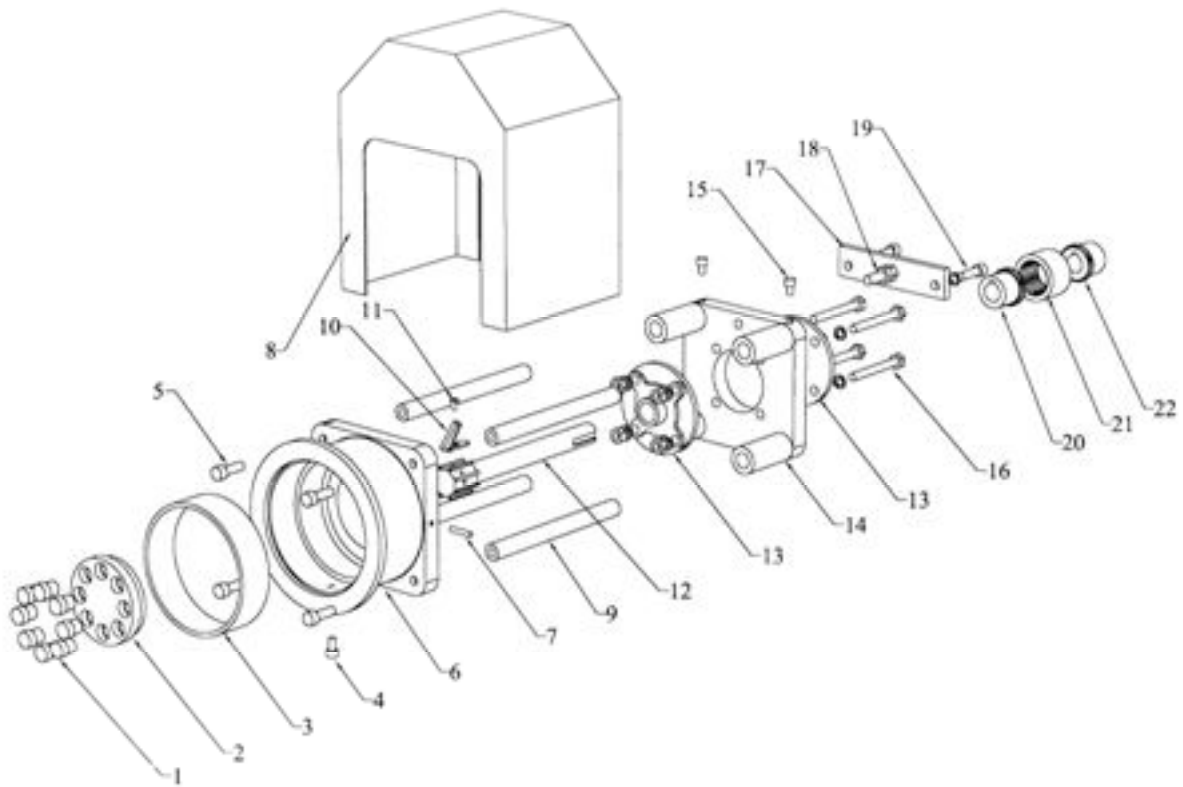

Figure 4.3 CUTTER HEAD setup
The production of pelleted and shaped products requires a CUTTER HEAD. It is clamped to the last BARREL OUTER HOUSING in the same manner as a BARREL END SECTION. Figure 4.3 shows a standard SINGLE DIE CUTTER HEAD assembly. The DIE PLATE (item 2) is designed to hold a number of DIE INSERTS. The number, size and shape of these vary from application to application. The aperture in the DIE INSERT acts as the DIE. In some applications the DIE PLATE will contain apertures that are intended to act as the DIES (normally for the production of small diameter and aquaculture feeds). The use of a DIE PLATE and INSERTS allows the use of DIES of different sizes and shapes. The use of BLANK INSERTS to block off some of the die holes allows a reduction in the number of DIES through which the product is forced. The DIE acts as a final restriction to the flow of material through the barrel and forms it into the desired shape. If too many die holes are open the product may not achieve the desired temperature, shape or density.